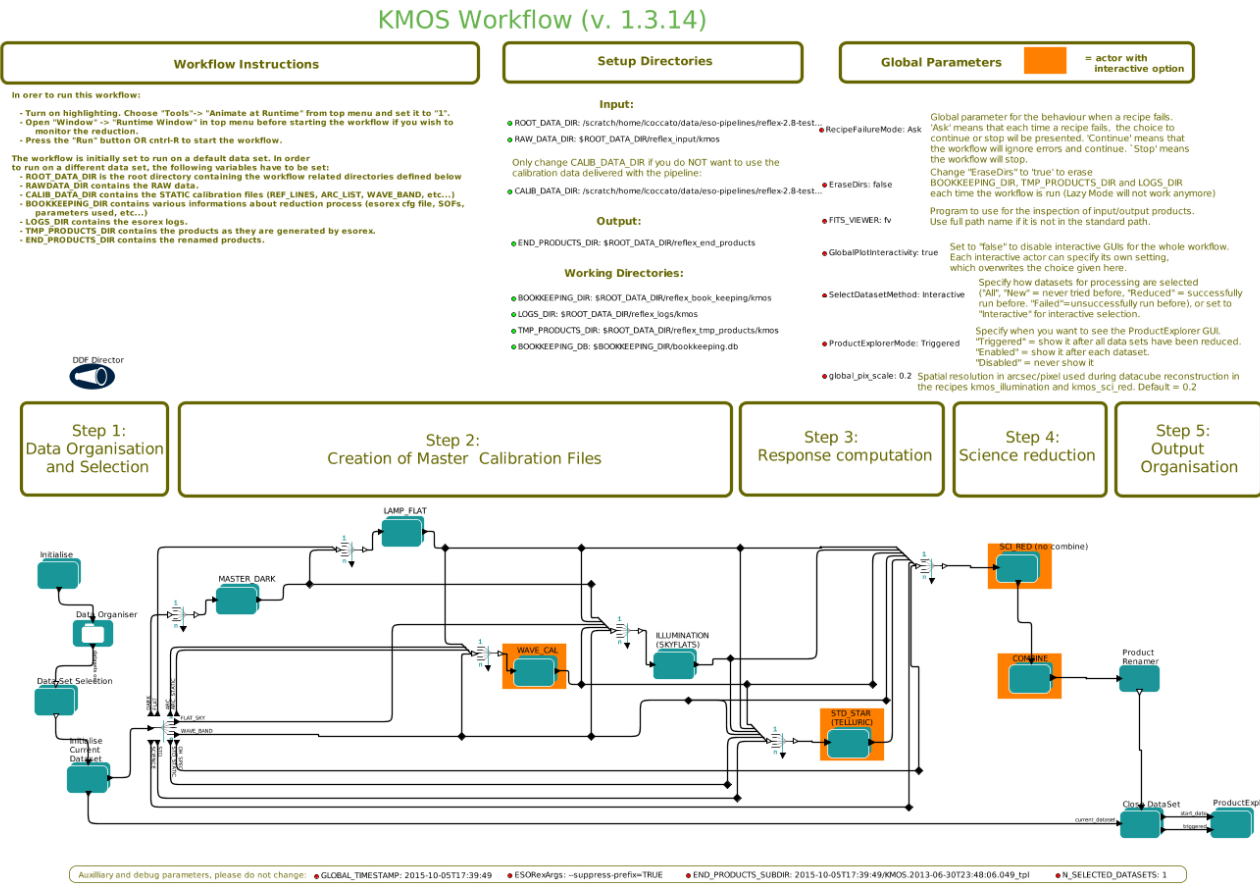

Figure 5.2: KMOS workflow general layout.
2. Now open the KMOS workflow by clicking on File -> Open File, selecting first `kmos-1.3.15` and then the file `kmos.xml` in the file browser. You will be presented with the workflow canvas shown in Figure 5.2. Note that the workflow will appear as a canvas in a new window.